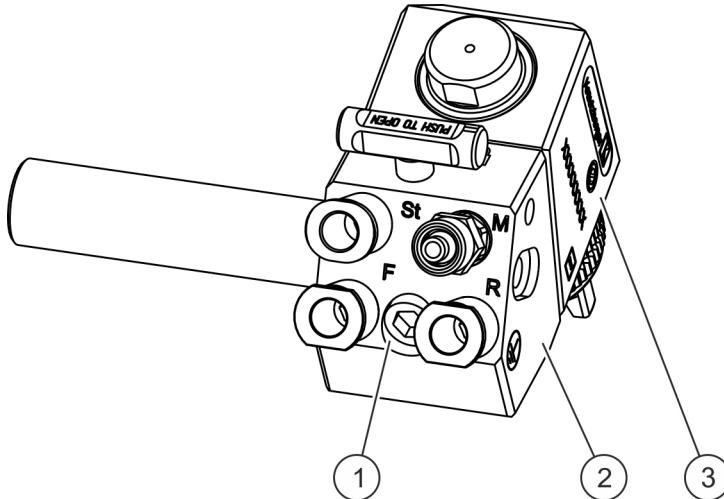

Fig. 5: Removing the main elements - screw design
1. ➔ Loosen the screw ( Fig. 5/1).
2. ➔ Remove the main element ( Fig. 5/3) from the adapter ( Fig. 5/2).
1. ➔ Push the main element ( Fig. 5/3) onto the adapter ( Fig. 5/2).
2. ➔ Screw on the main element ( Fig. 5/3) and adapter ( Fig. 5/2) with the screw ( Fig. 5/1).